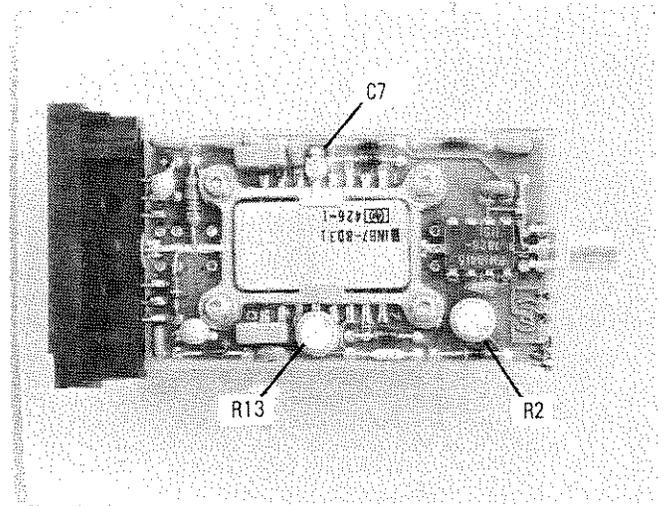

Figure 8. Probe PC Board
- b. On the 54100A/D, set the vertical sensitivity on channel 1 to 100 mV/div. Insure that the oscilloscope is in the Auto Sweep mode. Adjust R2, probe offset adjustment, on the probe PC board so that the trace coincides with horizontal line on the graticule. (Use the axis graticule.) See figure 8.
- e. Adjust R13 (see figure 8) on the probe PC board for the flattest pulse top possible.
- g. Adjust C7 (see figure 8) using a 0.025 in. (0.27mm) square shaft adjustment tool for the flattest overall pulse response. See Equipment Required List.